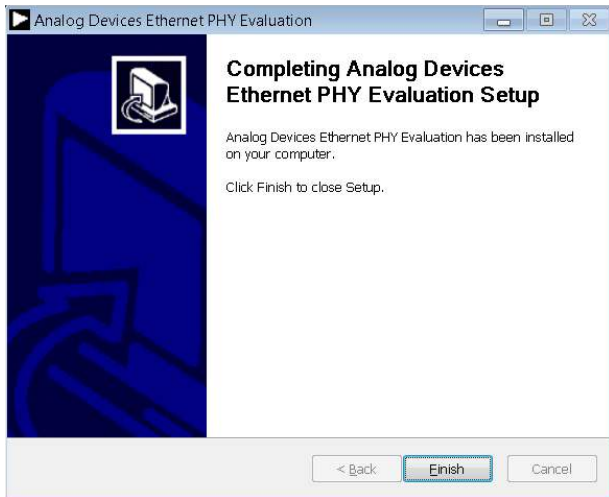

Figure 12. Installation Complete
- A window appears stating that the installation is complete. Click **Finish** to continue (see Figure 12).